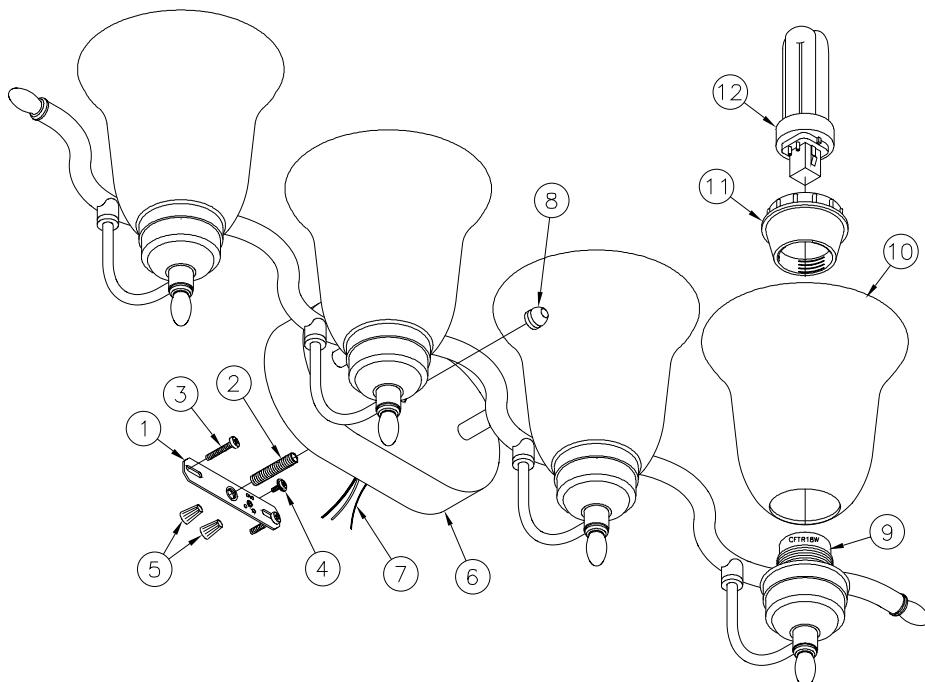

Fig.1
1. Remove fixture components and parts pack(s). Check that all parts are included. **See Fig 1.**